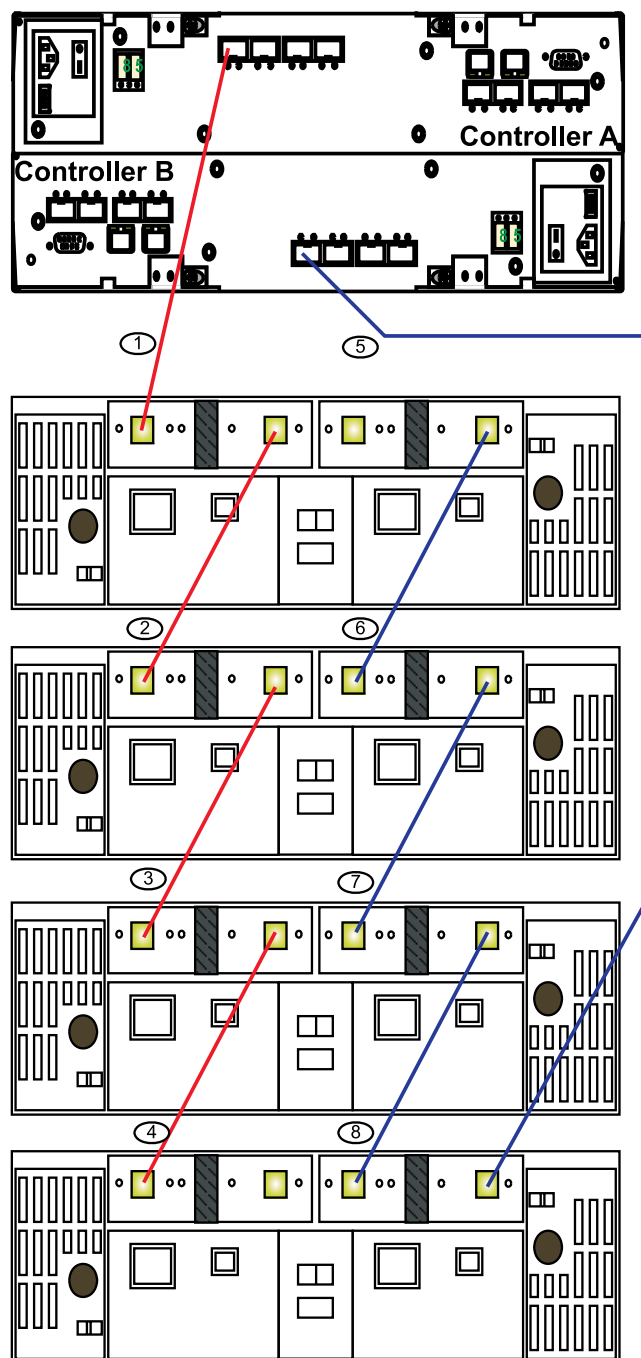

Figure 45. Connecting EXP710 or EXP100 enclosures to DS4800
- a. Starting on the DS4800 controller, connect drive port 4 (drive channel 1) of controller A to the In port on the left ESM board of the first storage expansion enclosure in the group. (See callout 1 in Figure 45 on page 65.)
- b. From the first storage expansion enclosure that will be cabled together behind a drive port of a drive channel, connect the Out port on the left ESM board to the In port on the left ESM board of the second (next) enclosure. (See callout 2 in Figure 45 on page 65.)
- c. From the first storage expansion enclosure, connect the Out port on the right ESM board to the In port on the right ESM board of the second (next) enclosure. (See callout 6 in Figure 45 on page 65.)
- d. If you are cabling more storage expansion enclosures to this group, repeat the In port to Out port connections until you reach the last storage expansion enclosure. (See callouts 3 and 4 for the left ESM connections and callouts 7 and 8 for the right ESM connections in Figure 45 on page 65.)
- e. On the last storage expansion enclosure in the group, connect the Out port on the right ESM board to drive port 1 (drive channel 3) of controller B of the DS4800. (See callout 5 in Figure 45.)